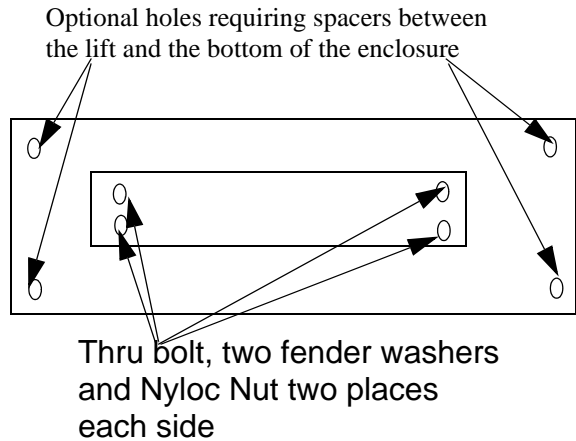

Figure 10. Secure Lift
7. Secure the unit into the enclosure using 4 thru bolts (1/4-20 or larger), 8 fender washers, and 4 Nyloc nuts (see Figure 10). Tighten securely.